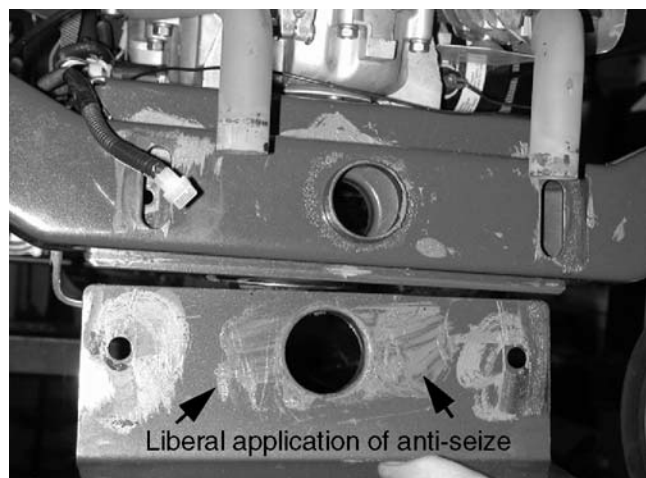

Figure 11-63
16. Lift the pivot bar off of the round shoulder at the front of the frame. See Figure 11-63.